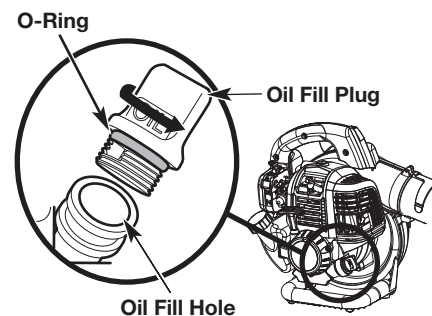

Fig. 9
**Note:** Make sure the O-ring is in place on the oil fill plug (Fig. 9).
1. Clean the area around the oil fill plug (Fig. 9) to prevent debris from entering the oil fill hole.